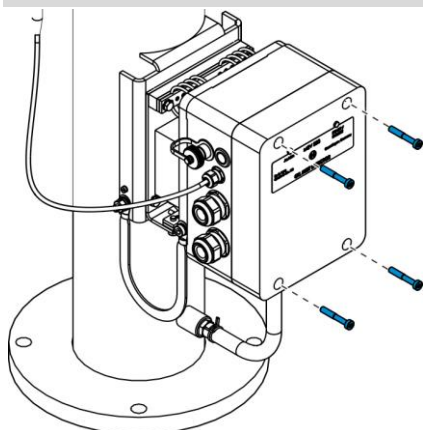

Fig. 55: Removing screws
2. Remove the screws of the housing cover (Fig. 55).